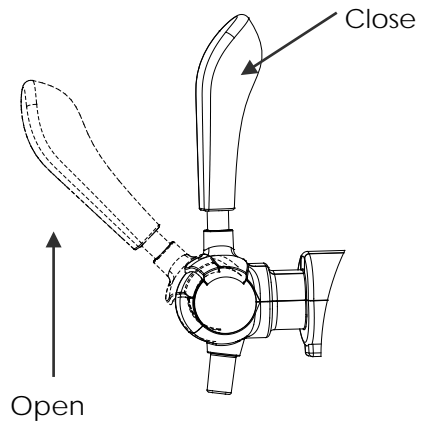

Figure 12
Note: Ensure that the tap is in closed position when connecting the hose and the adaptor. (Figure 12)
6. Pull the tap handle into 45 degrees to pour the beer from the beertender. (Figure 12) the beer flow rate and bubble can be controlled by adjusting the pressure regulator knob.